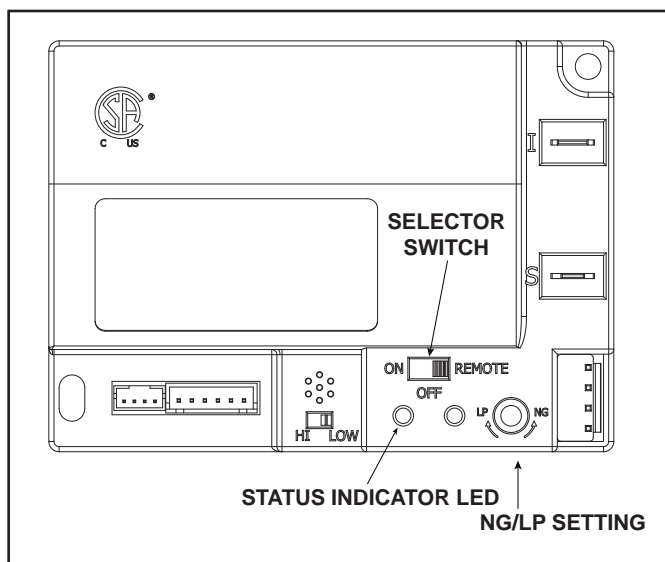

Figure 12.1 Control Module
- Locate the module selector switch. (See Figure 12.1).
- Wait five (5) minutes to allow possible accumulated gas to clear.